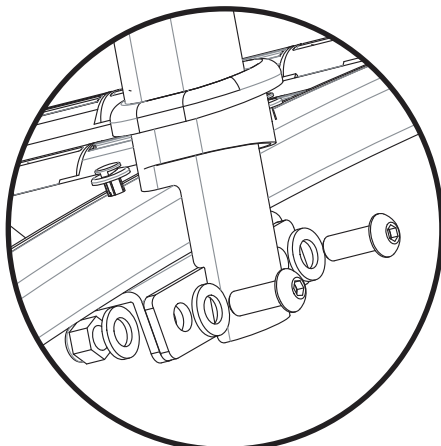

Figure 3B
- 3-2 Slide item #33(Rubber Sleeves Handrail) below the bolt holes on item #31(Lower Handrails). (figure 3B)
- 3-3 Attach item #31(Lower Handrails) to mounting frame brackets using hardware items #2, #11, and 7. (figure 3B).